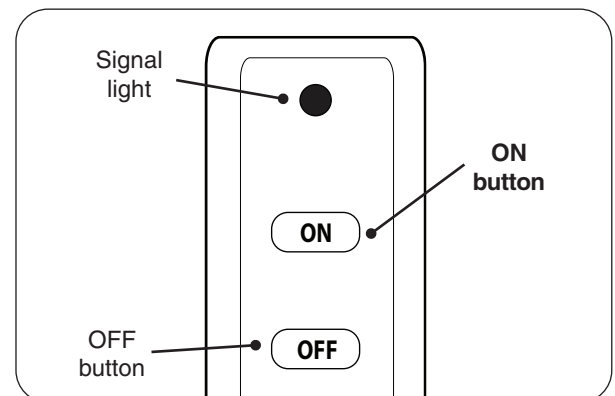

Fig. 37-3 Remote transmitter detail
4. Locate the remote transmitter and press the **ON** button (see Fig. 37-3). The ignition sequence will begin.